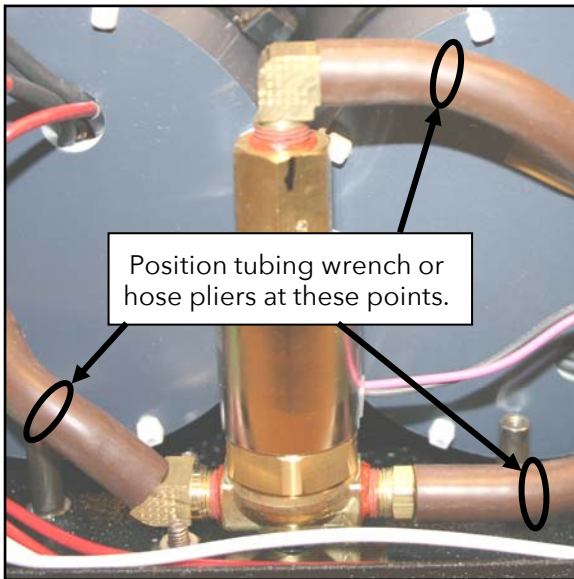

Figure 3. DISCONNECTING THE AIR HOSES.
4. Using a tubing wrench or vacuum tube pliers, grab hold of each of the three air hoses about 1 inch in from the end, then pull gently to disconnect the hoses from their fittings. Refer to Figure 3.